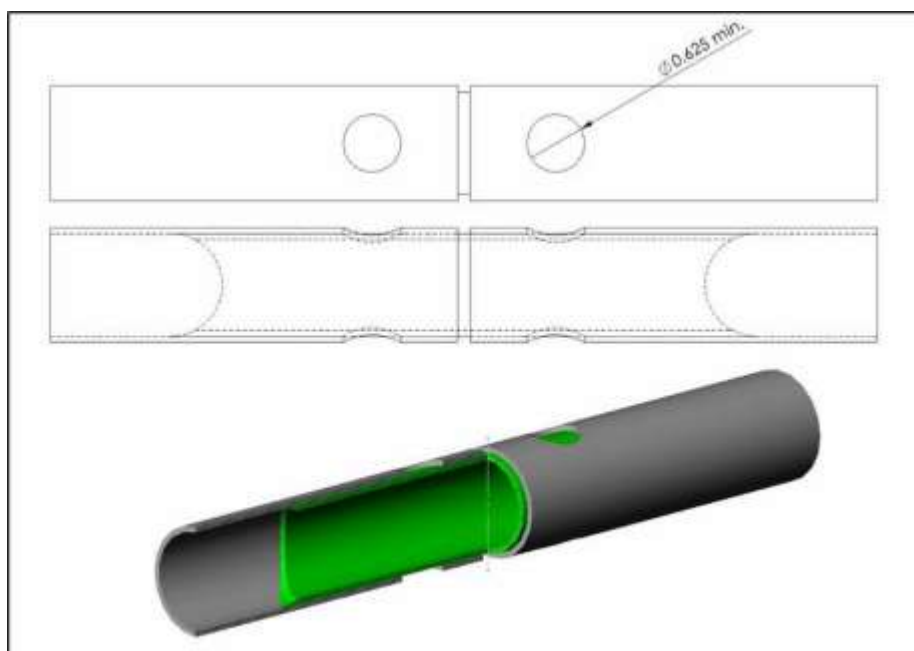

Figure B- 25: Roll Cage, Butt Joint Tube Sleeve
The general arrangement of an acceptable sleeved joint is shown in Figure B-25. A butt weld and four (4) rosette welds are required. Two (2) rosette welds are required for each tube piece. Rosette welds are to be made in holes of a minimum diameter of 16 mm (0.625 in.).